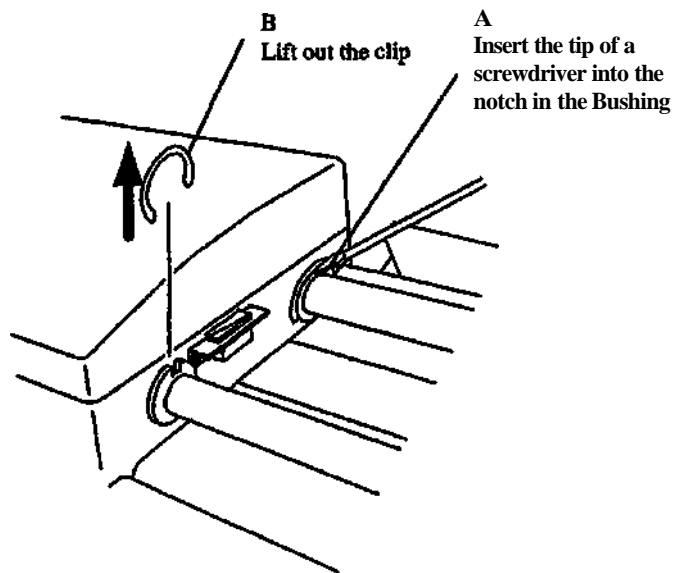

Figure 3. Removing the Bushing Retaining Clips
6. (Figure 3): Remove the two Bushing Retaining Clips.